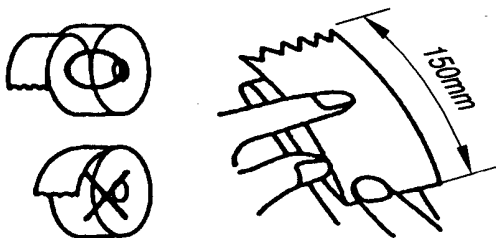

Fig. 3-8 Folding the Paper
- Under the condition of marked O paper, unroll the paper about 150mm, then fold the paper like the Fig. 3-8.